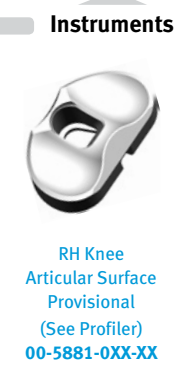

Fig. 61
- Place the Tibial Articular Surface over the Hinge Post until it contacts the condyles of the Femoral Component (Fig. 61).